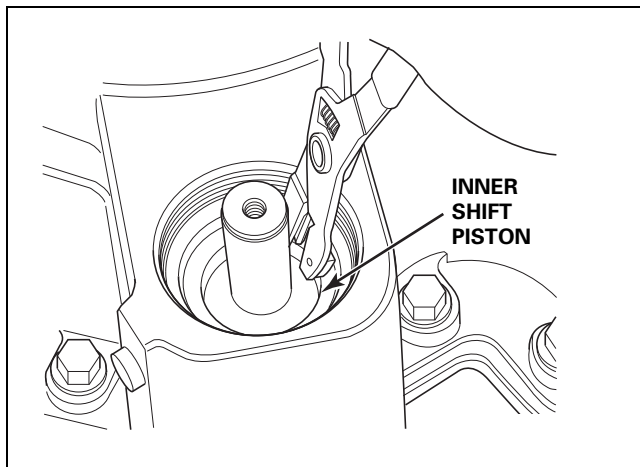

Figure 6.32
2. Install O-rings onto the inside diameter and outside diameter of the inner piston. Install the inner shift piston and snap ring onto the shift shaft. Figure 6.32.